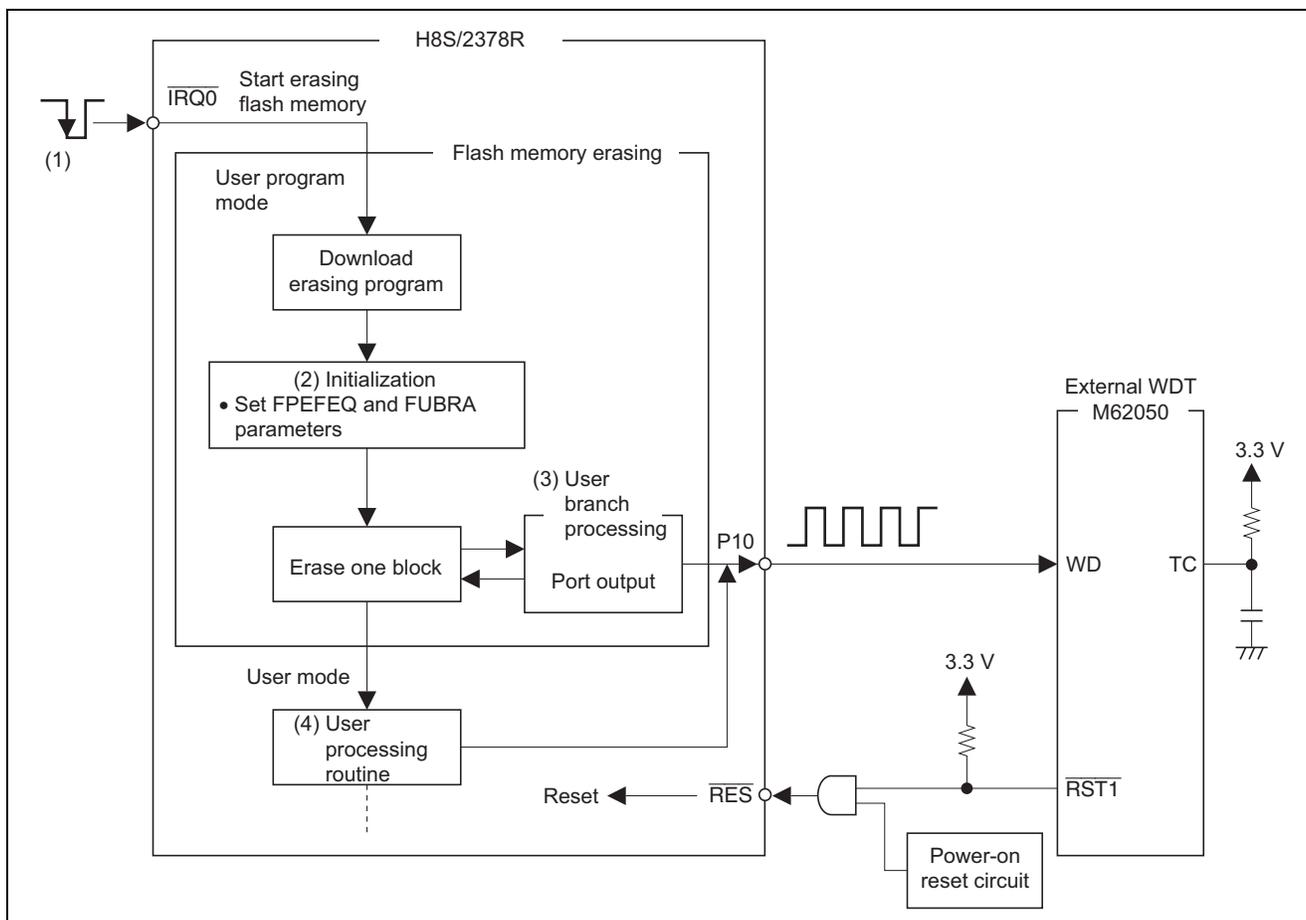
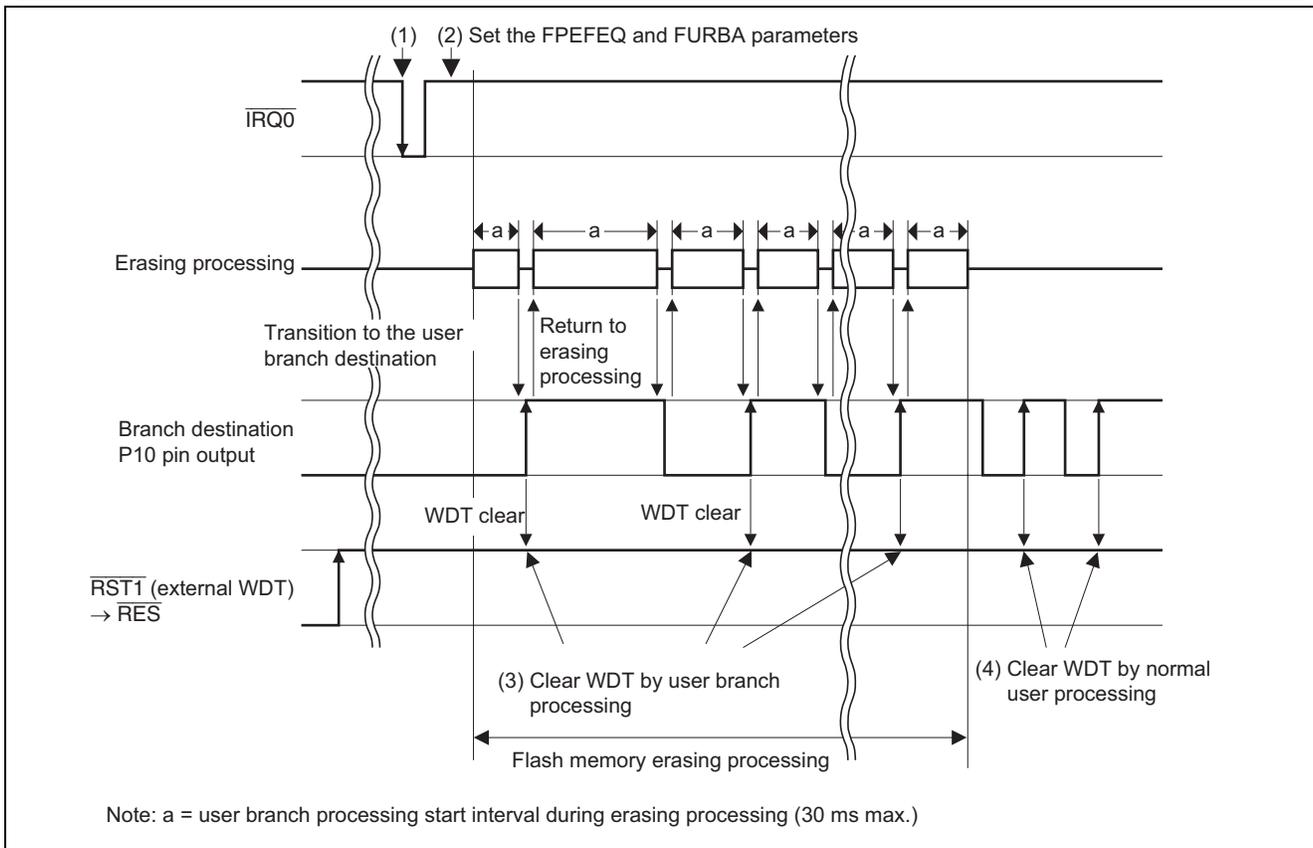

Figure 2 Details of Operation
Figure 3 Operation Timing
Figure 2 shows the operation of this sample task. Figure 3 shows the timing of operations in this sample task. Details of figures 2 and figure 3 are given below. Points labeled (1) to (4) in figures 2 and 3 correspond to descriptions (1) to (4) below.
- (1) In this sample task, a power-on reset is applied in user mode. Input of a falling edge to the $\overline{\text{IRQ0}}$ pin causes a transition to user program mode and then initiates erasure processing.
- (2) During initialization processing for flash-memory erasure, parameters FPEFEQ and FUBRA are set to enable the user branch function. These settings allow the execution of user branch processing between the steps for erasing flash memory.
- (3) The initiation interval for user branch processing during erasure processing is up to 30 ms. Since the user branch processing inverts the output on the P10 pin, a high-level signal (external WDT clearing signal) is output on the P10 pin and clears the external WDT at least once every 60 ms ($30 \text{ ms} \times 2$). This clearing interval is less than the external WDT setting time (120 ms), allowing continued operation without resetting of flash-memory erasure processing by the WDT.
- (4) When the erasure of flash memory is complete, a transition is made to user mode. At this point, the external WDT is cleared by normal user processing.